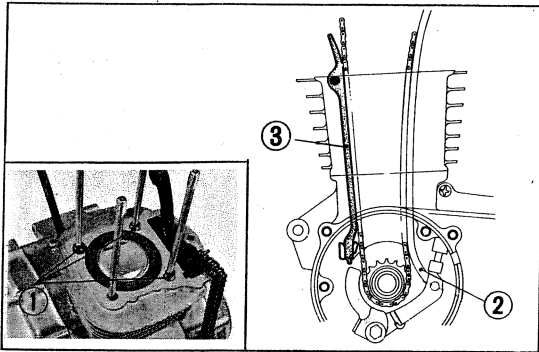

Fig. 43 ① Dowel pins ② Cam chain tensioner
① "T" mark ② Mounting holes ③ Cam sprocket
- 4) Reinstall the chain guide. (Fig. 43)
- 5) Reinstall the three dowel pins and O ring. (Fig. 43)